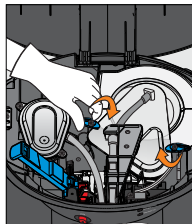

Figure 38
13. Rotate turn knobs to lock SmartFlo™ SF-1 Water Cartridge in place (Figure 38)